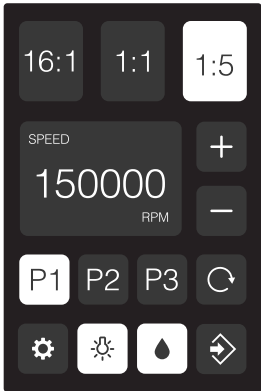

Figure 8
5.7.2 In setting interface, touch key “9” Calibration key, touch Start key, and the interface shown in Figure 8, 9 will pop up. Fully step on the foot pedal until the screen displays 100%, and release the foot pedal to finish the calibration.